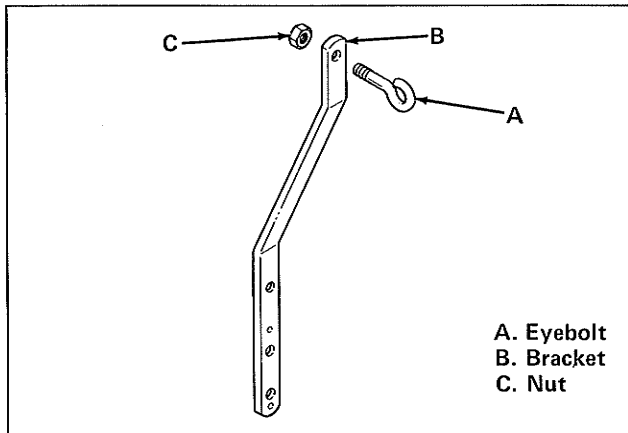

Figure 4. Control Rod Bracket
10. Attach eyebolt (item A, figure 4) to control rod bracket (item B) and secure with nut (item C).